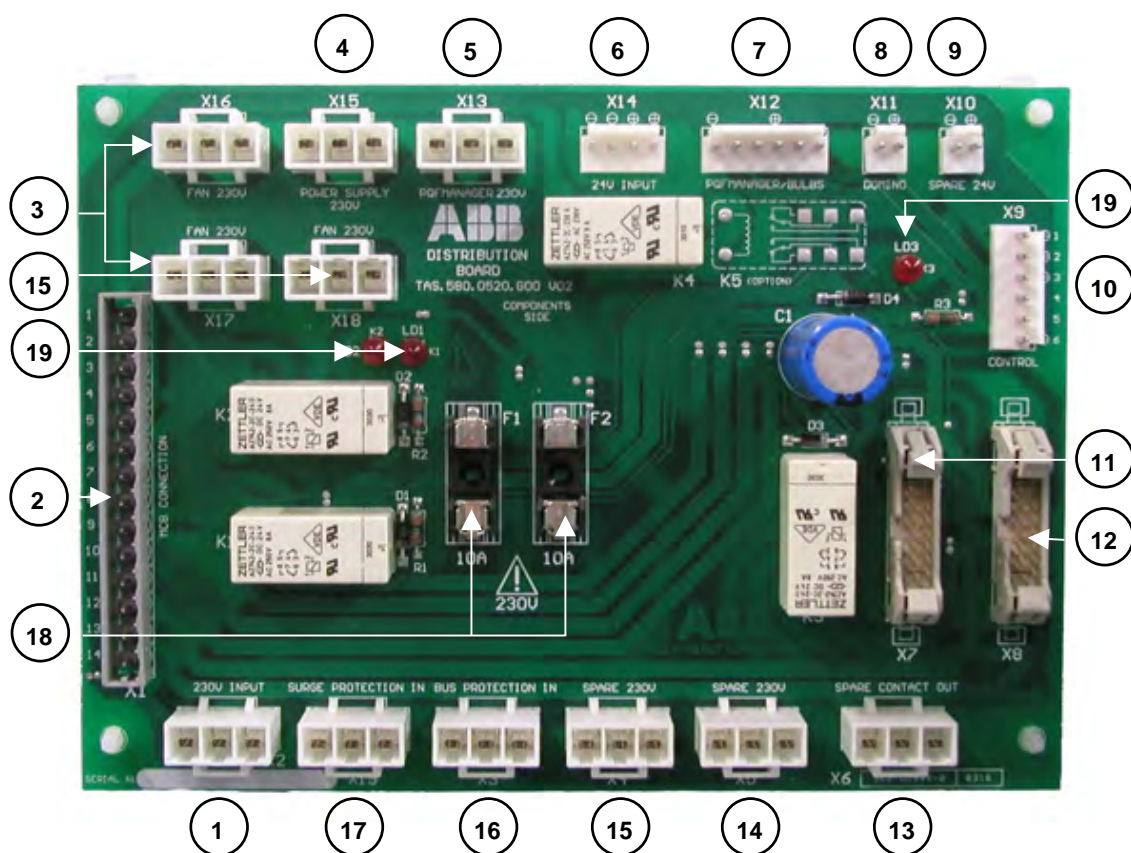

Figure 5.10. Distribution board layout
The distribution board (5) acts as a pass through for different information and control channels. It also distributes the auxiliary voltage and the DC control voltage to the different components. The distribution board is shown in Figure 5.10.